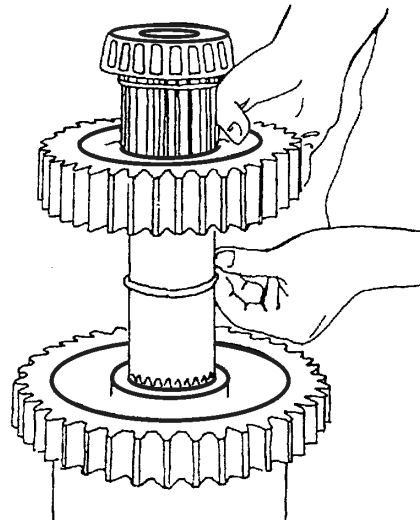

Fig. 7C.26. Lowering Second Drive Gear
16. Remove bearing cone (39, Fig. 7C.6) as shown in Fig. 7C.27. Disassemble component parts in the order (2, 3, 6, 7, 8 and 9) using a press.